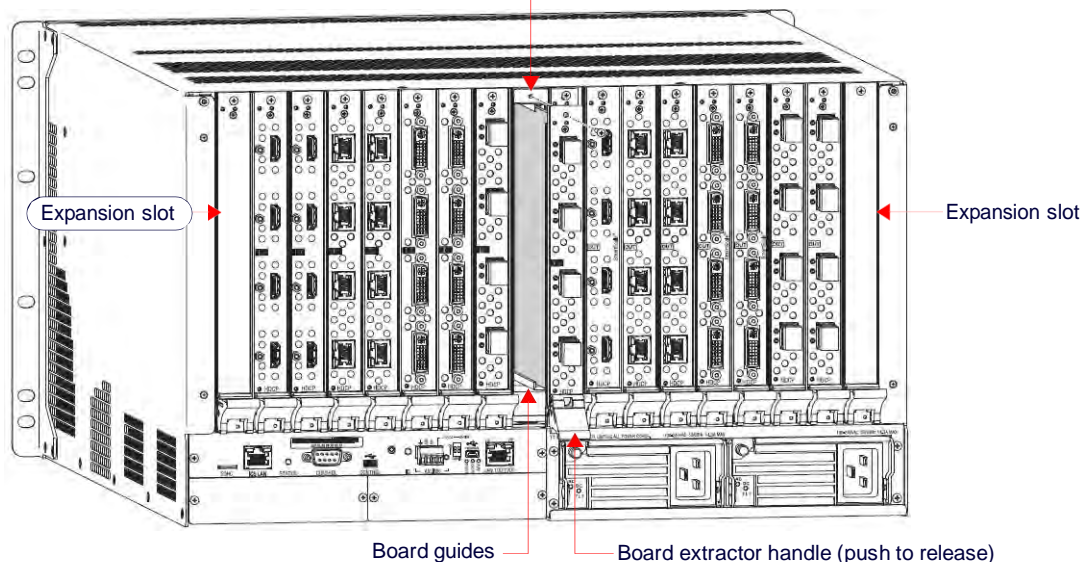
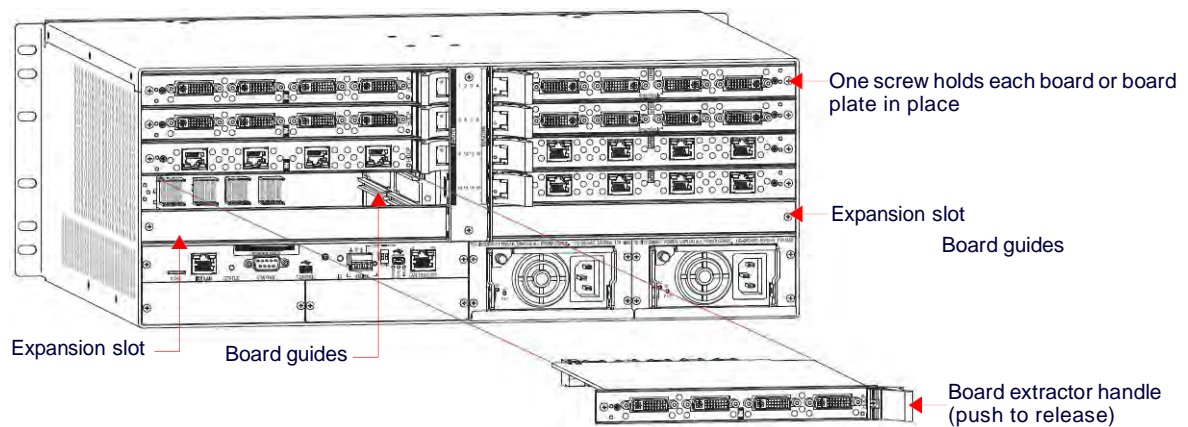

FIG. 146 Vertical board removal (DGX-3200)
FIG. 147 Horizontal board removal (DGX 800/1600/6400)
- a. Remove the screw that holds the board plate in place (for Enova DGX 3200, see FIG. 146; for Enova DGX 800/1600/6400, see FIG. 147).
- **DGX 3200:** Push board extractor handle down, and then pull board straight out (FIG. 146):
- **DGX 800/1600/6400:** Push extractor handle right (input) or left (output), pull board straight out (FIG. 147):